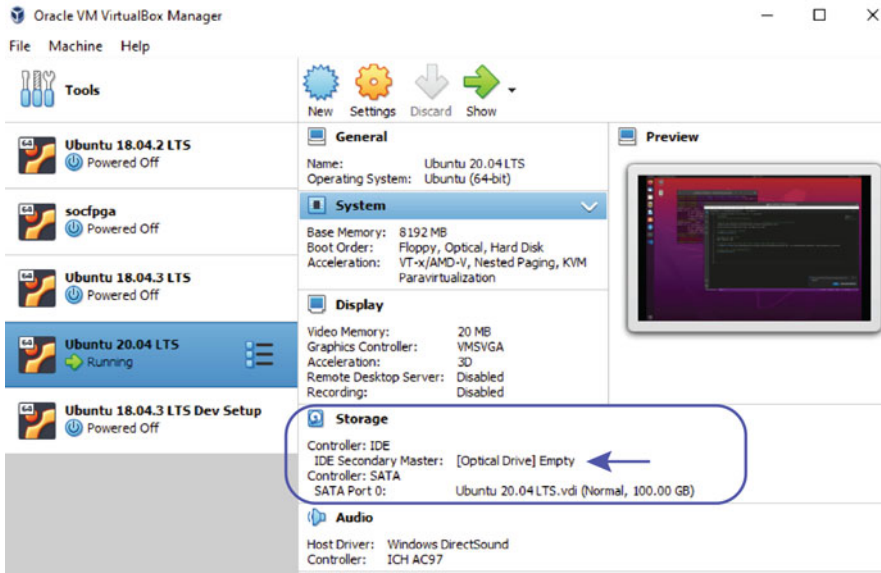

Fig. 11.12: Installing Ubuntu using the Ubuntu .iso image that is loaded into [Optical Drive]
Step 2: **Install Ubuntu** as the virtual machine operating system. With Ubuntu 20.04 LTS selected in the VirtualBox Manager (in left column), right click on [Optical Drive] as shown in Fig. 11.12 in the *Storage section* and “Choose a disk file. . .”